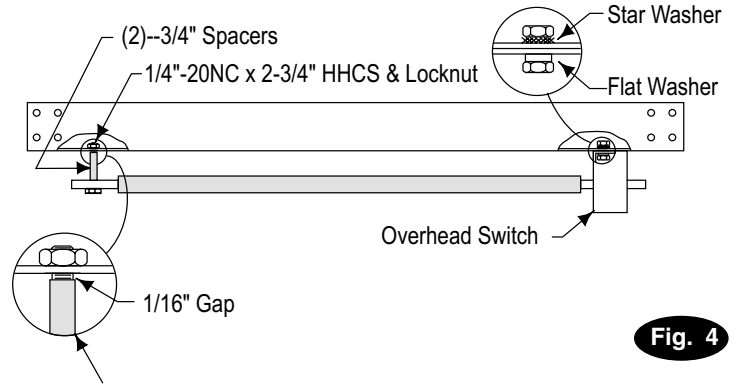
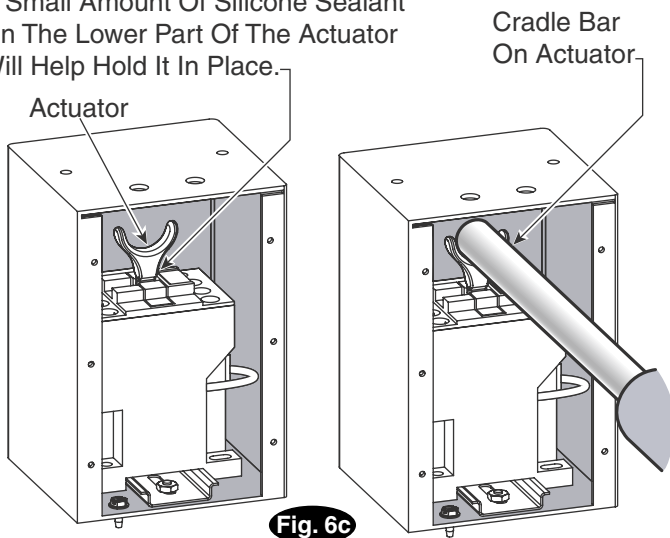
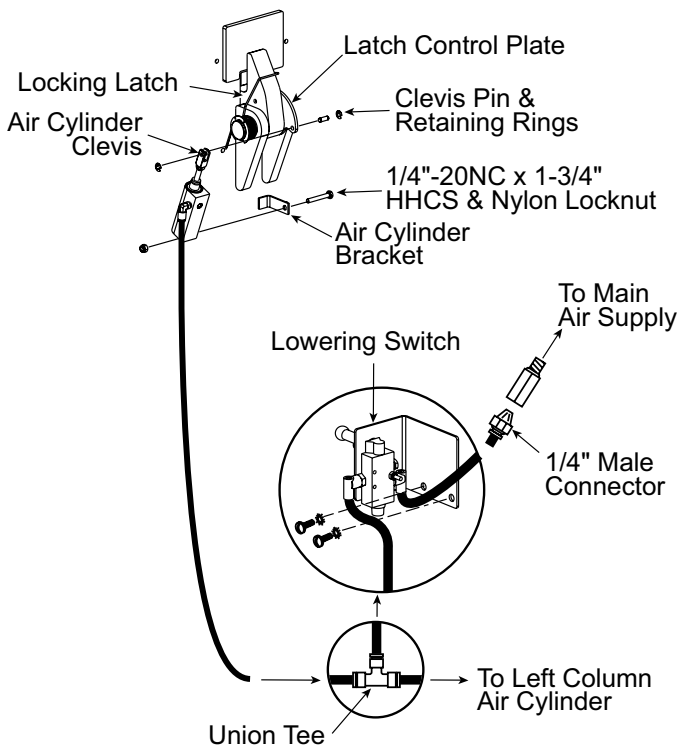

Fig. 4
Fig. 6c
Fig. 12
2. Lift Height: See Fig. 4 for overall lift height of each specific lift model. Add 1" min. to overall height to lowest obstruction.
6. Mount switch assembly towards power unit column as shown, Fig. 4, using (2) 1/4"-20NC x 3/4" lg. HHCS, nuts and Star Washers.
For three phase lifts: Remove Limit Switch cover, Fig. 6b. Insert Actuator end of Switch Bar into slot located inside Limit Switch, Fig. 6c. A small amount of silicone sealant on the lower part of the actuator will help hold it in place. Insert 1/4"-20NC x 2-3/4" HHCS through pivot hole in end of Switch Bar. NOTE which hole to use, Fig. 12. Then secure HHCS and Switch Bar to overhead as shown, using (2) 3/4" spacers and 1/4"-20NC Locknut. Tighten Hex bolt leaving 1/16" gap between the spacer and the overhead assembly, Fig. 4. Replace limit switch cover.
- A) To install cylinder, first slip dampening spacer over rod with rod in retracted position as shown below, Fig. 12.
- D) Screw Bracket Clevis onto shaft, position, and tighten locknut securely, Fig. 12.
- H) Slide one side of lower Pivot Pin (pre-installed & fixed in cylinder) into one half of the column Pivot Bracket. Install Pivot Bracket into column using (2) 1/4"-20NC x 3/8" lg. PHMS, Fig. 12.
- L) Mount lowering valve and bracket to column using (2) 5/16"-18NC x 3/8" lg. PHMS, Fig. 12.